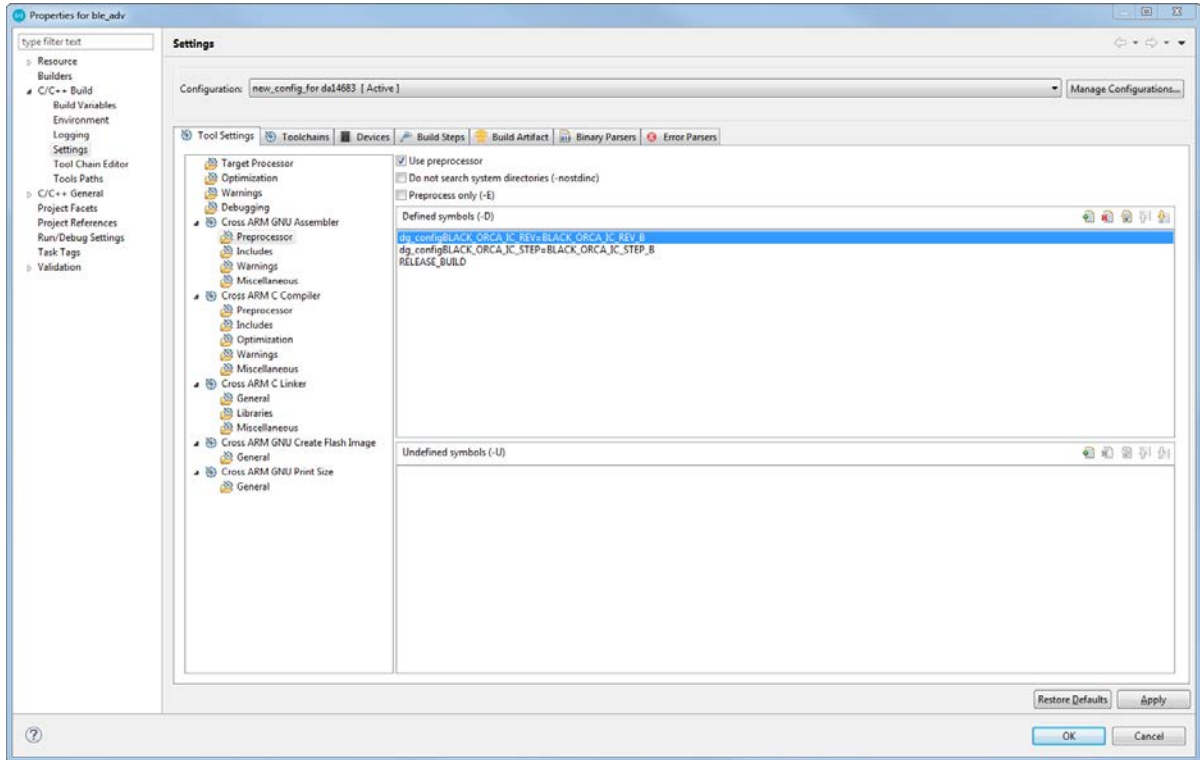
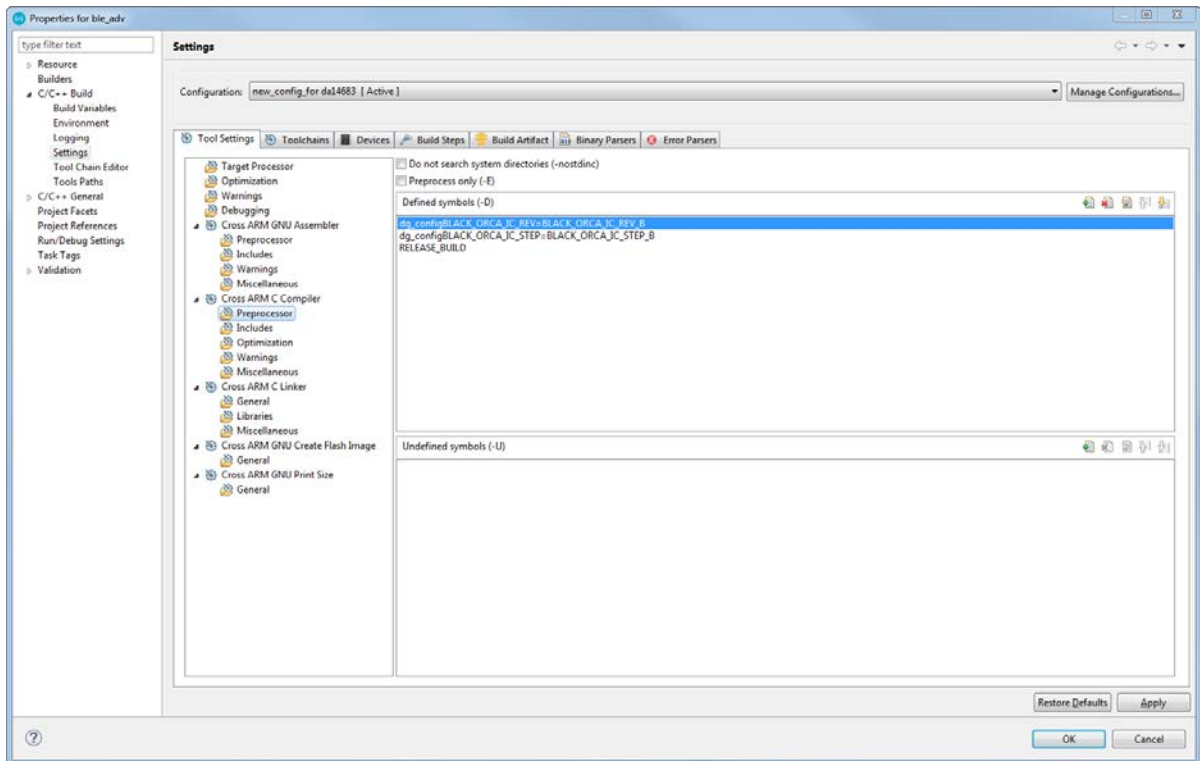

Figure 5: Edit assembly defined symbols
Figure 6: Edit compiler defined symbols
5. Make sure the new configuration is selected at the top of the window. In the "**C/C++ Build/Settings**" area, edit the preprocessor setting for both **Cross ARM GNU assembler** (Figure 5) and **Cross ARM C Compiler** (Figure 6). You should edit the IC_REV and IC_STEP to reflect the following values: